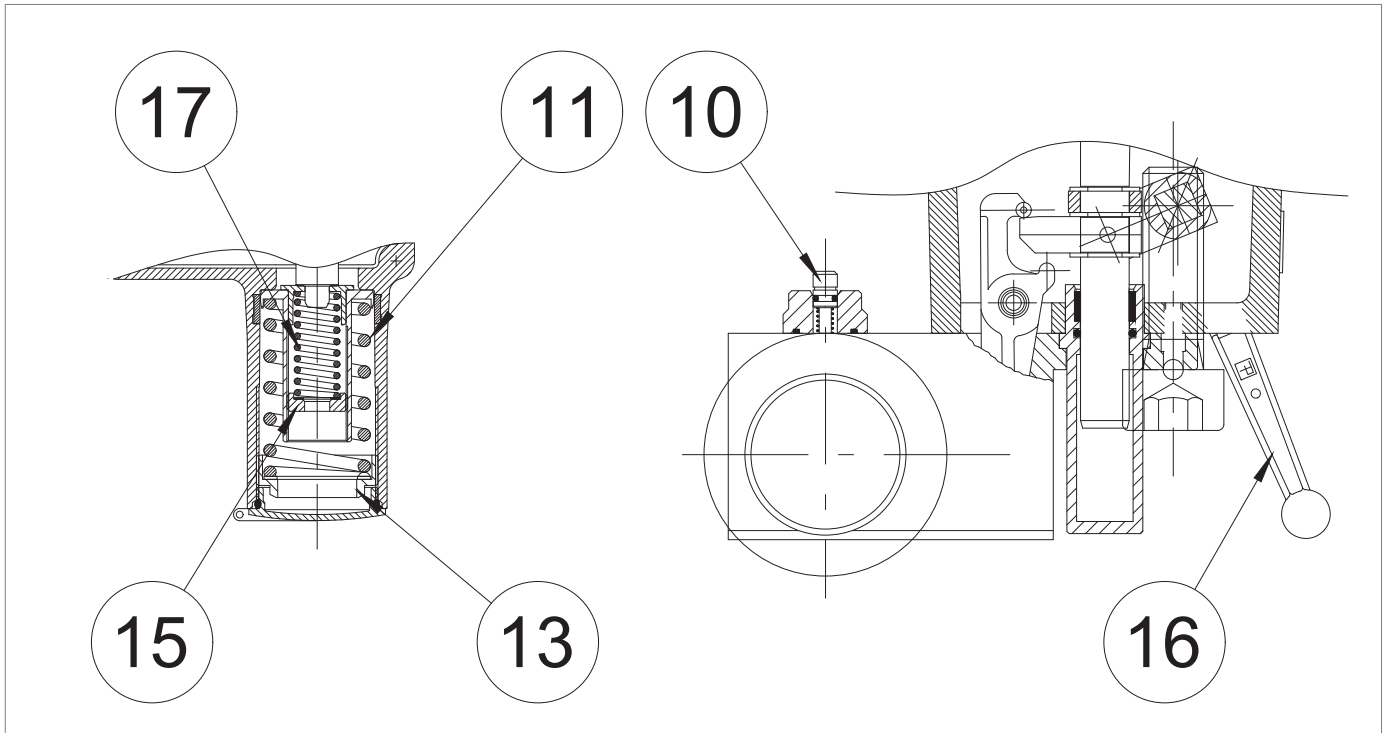

Fig. 8.34. Calibration of pressure switches mod. 100
2	Check that the built-in slam-shut valve is in the closed position. NOTICE! If the built-in slam-shut valve is in the open position, close it using a manual button (Fig. 8.34, ref.10).